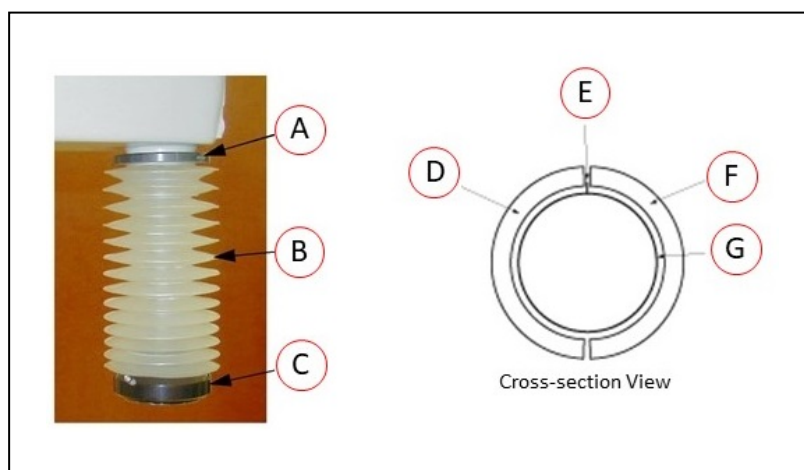

Figure 9-14. Bellows Replacement and Alignment
7. Re-install the upper bellows clamp. You must align the mating surface of the clamp half-rings with the bellows seam—see Figure 9-14. Tighten the screw to secure the bellows.